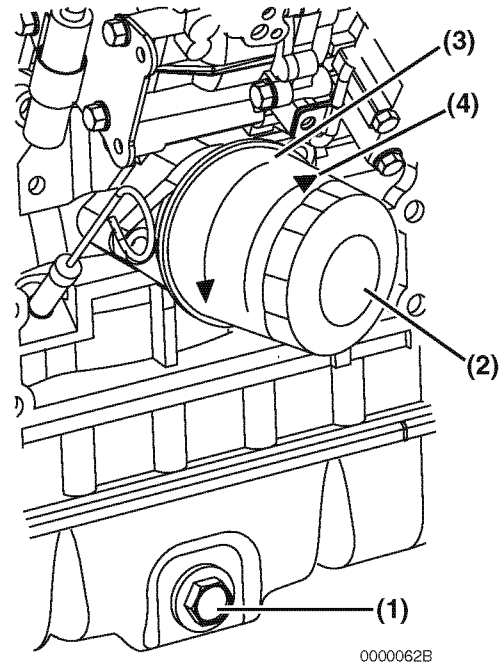

Figure 5-2
6. Remove the oil drain plug (**Figure 5-2, (1)**) from the engine oil pan. Allow oil to drain.
7. After all oil has been drained from the engine, reinstall the oil drain plug (**Figure 5-2, (1)**) and tighten to 139.8 - 47.0 ft·lb (53.9 - 63.7 N·m; 5.5 - 6.5 kgf·m).
1. Turn the engine oil filter (**Figure 5-2, (2)**) counterclockwise (**Figure 5-2, (3)**) using a filter wrench.
3. Lightly coat the gasket on the new oil filter with engine oil. Install the new engine oil filter manually by turning it clockwise (**Figure 5-2, (4)**) until it contacts the mounting surface. Tighten to 14 - 17 ft·lb (19.6 - 23.5 N·m; 2.0 - 2.4 kgf·m) or one additional turn using the filter wrench.